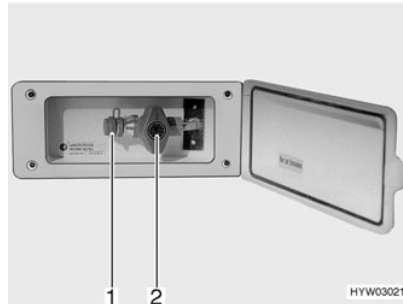

Fig. 50 External gas connection, gas isolator tap closed
The external gas connection (Fig. 50) is located on the left-hand side of the vehicle.
- Connect the external gas device to the connection point (Fig. 50,1).
- Open the gas isolator tap (Fig. 50,2).